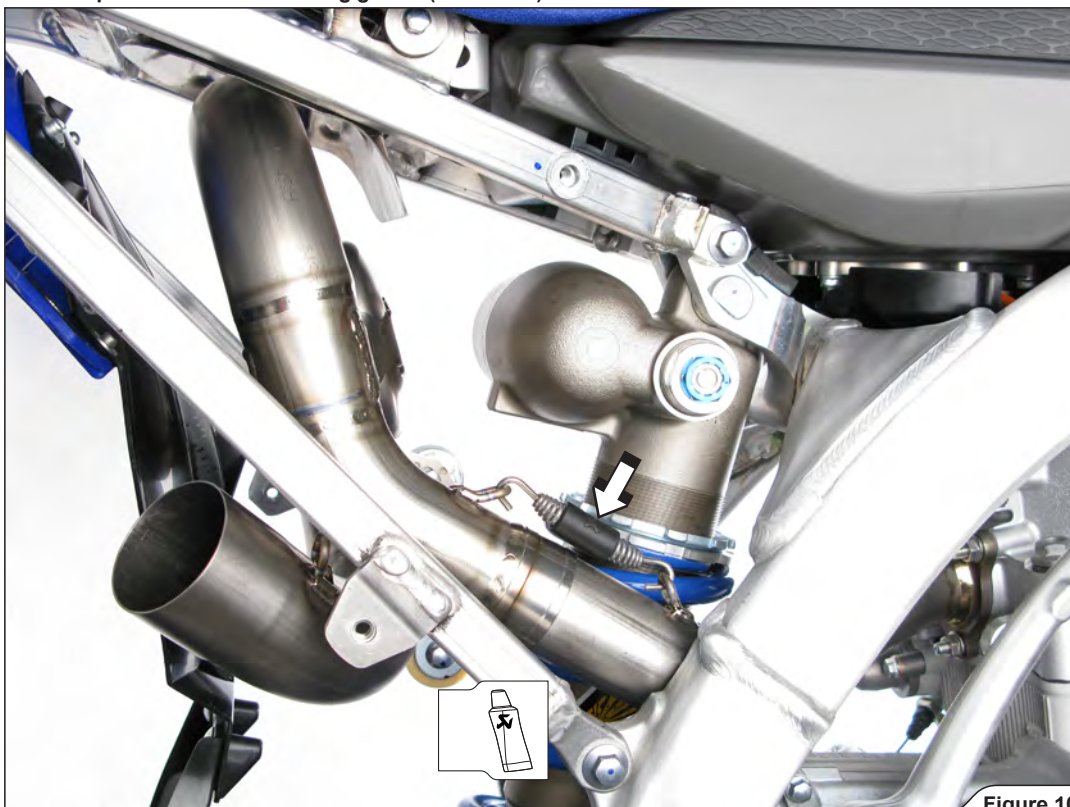

Figure 10
3. Correctly position the link-pipe and slide it onto the header pipe. Attach the spring and reattach the stock rear fender (Figure 10, 11).